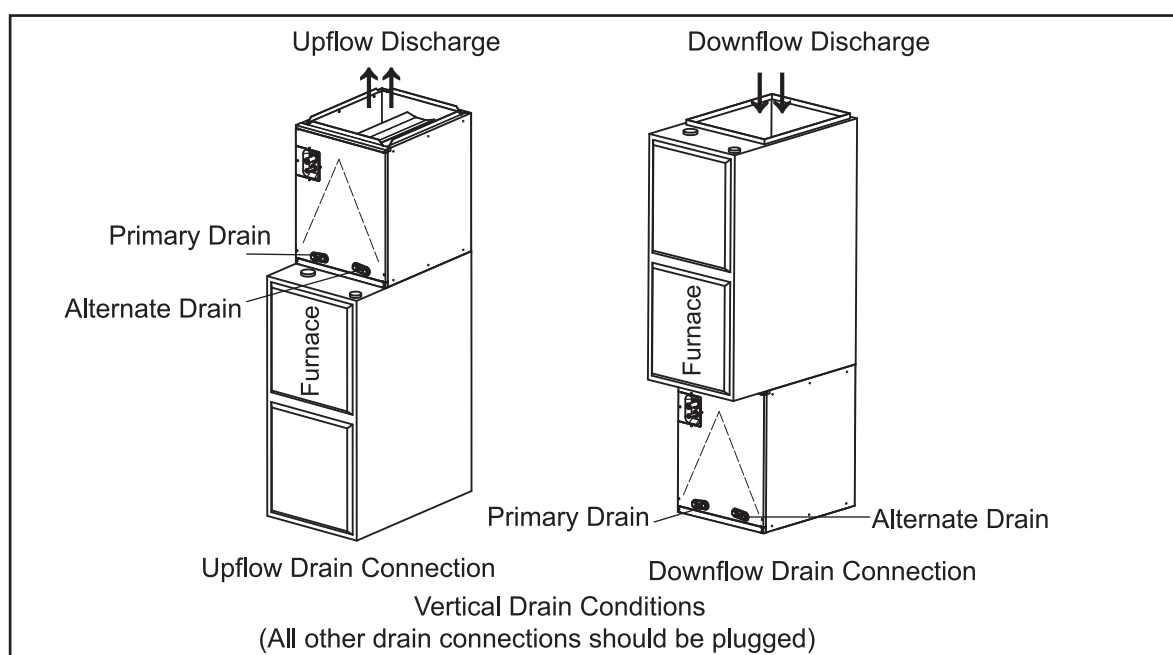

Fig. 3-1 INSTALLATION OF CASED COIL
1. See Fig. 3-1 for coil installation and drain connection.
- C. Ensure that the coil is leveled and seal the gap between coil and furnace.See Fig. 3-1. In case that coil and the furnace sizes are not matched, use proper size of sheet metal or other material to fill the gap and seal the gap to prevent air leak;